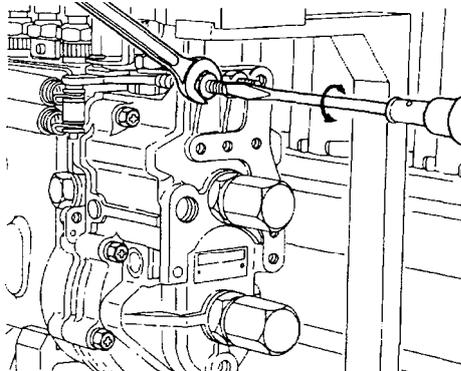

Figure 122 Maximum Speed Setting Bolt Adjustment
- w.** Set the pump speed to 1 120 , set the control lever in the position where it makes contact with the maximum speed setting bolt and adjust the maximum speed setting bolt (Figure 122) so that the control rack begins to move in the fuel decrease direction while the pump speed is 1 600 plus 35 or minus 25 . Tighten the locknut on the maximum speed setting bolt.